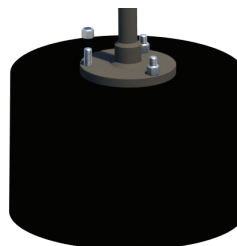

Figure 35
4.0.4) Thread a locknut onto the screw until it bottoms out and is tight. Repeat for the other two 2-inch-long cap screws (see Figure 35).